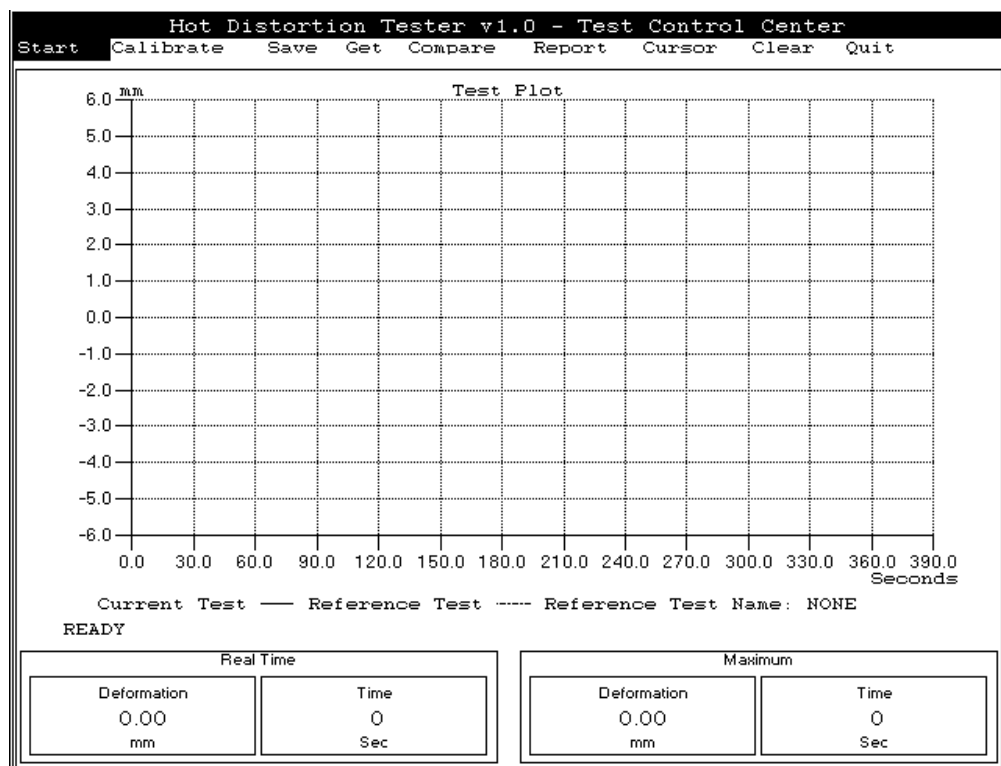

Figure 8
- Limits (not shown on Figure 8 Menu Bar)